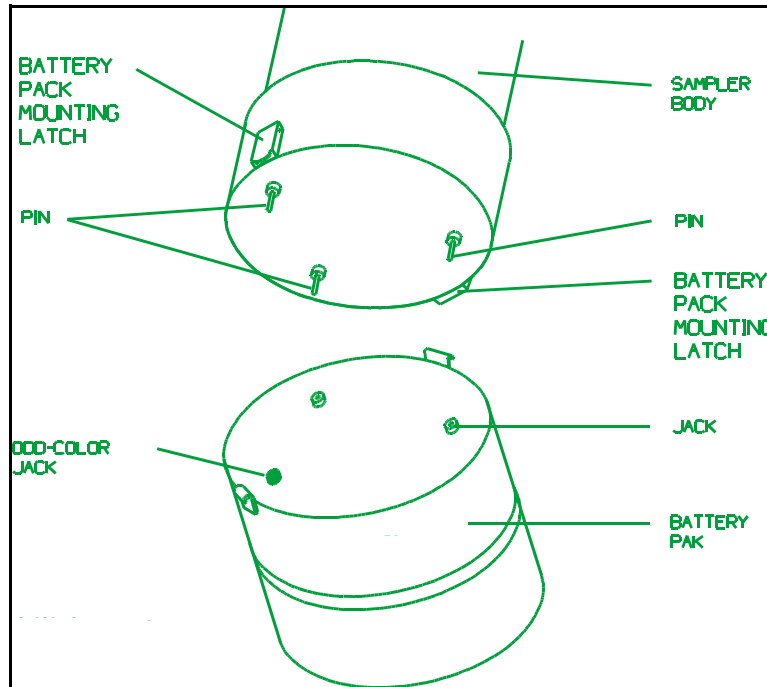

Figure 2.1. Attaching Battery Pack
1. Lift the sampler over the battery pack and carefully insert the banana pins extending from the sampler bottom into the sockets on the top of the battery pack. The pins are unevenly spaced and can fit only one way—the pin closest to a latch on the sampler body inserts into the odd colored receptacle on the battery pack (see Figure 2.1).